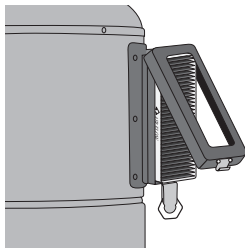

figure 22
1. Unlatch the opening on the carbon filter case and gently flip it upward (**figure 22**).